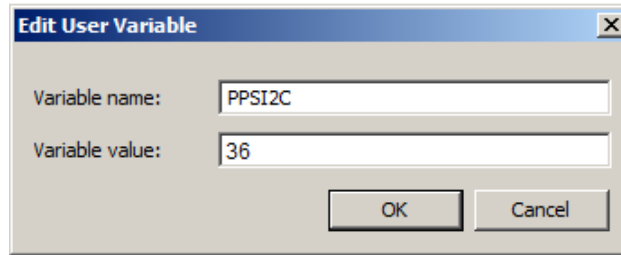

Figure 10. Edit User Variables Dialog
3. In the *User Variables* section of the dialog, scroll through the list to see whether the variable PPSI2C shows. If the variable is not already listed, click the *New* button. If the variable name PPSI2C already exists in the list, click on PPSI2C to select it, and then click the *Edit* button. The *Edit User Variable* window appears, as shown in Figure 10.
4. In the window shown in Figure 10, type "PPSI2C" as the *Variable name* (for new variables). The *Variable value* should be "36" for TAS5707/09 and "3A" for TAS5707A/09A. Click *OK* and close the dialog boxes.